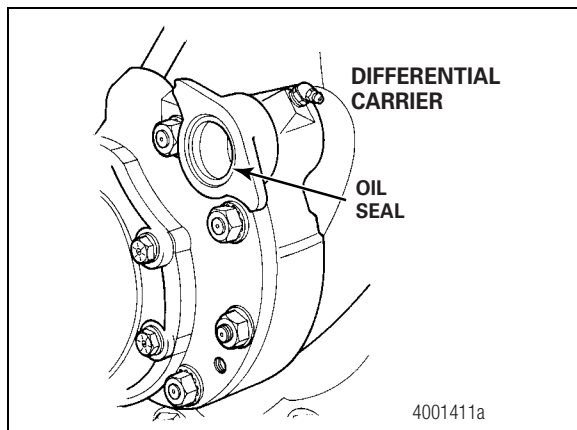

Figure 5.16
2. Install a new oil seal into the bearing cage. The seal lip must be installed toward the bushing. Figure 5.16.